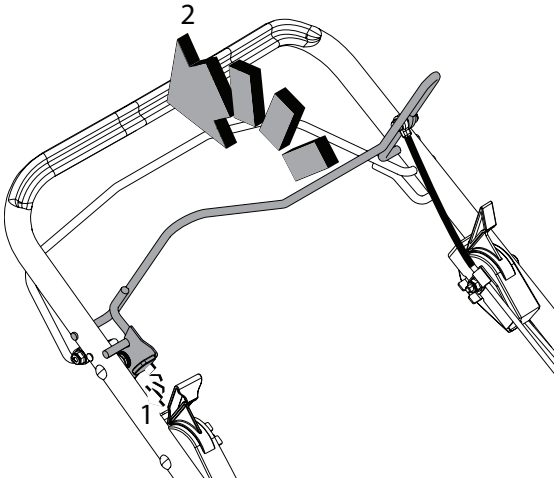

Figure 4-4. Blade Control Bar Engagement
- Push and hold the blade control lock lever forward to release the blade control bar. See Figure 4-4.